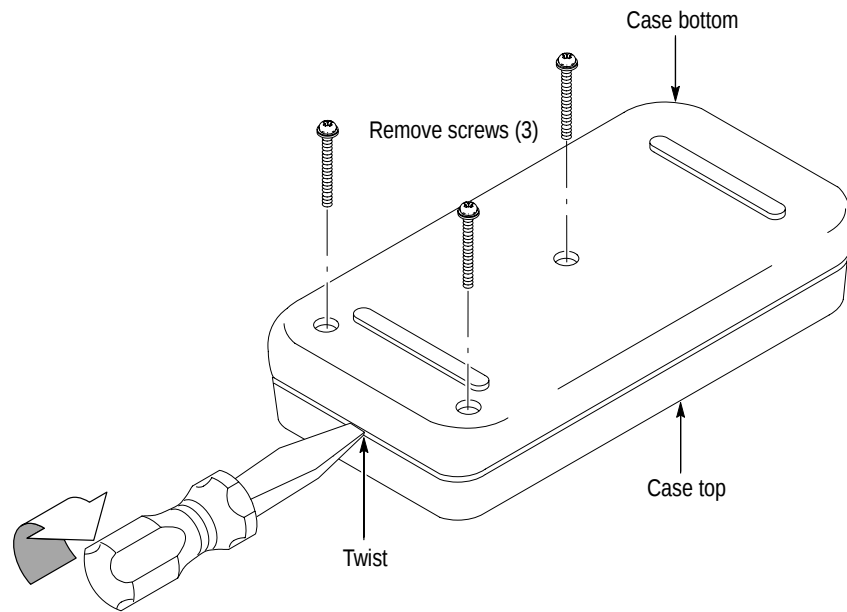

Figure 2: Opening the Meter Case
3. Gently lift the end of the case bottom at the end opposite from the display. Then lift the end nearest the display until it unsnaps from the case top. See Figure 2 for details.